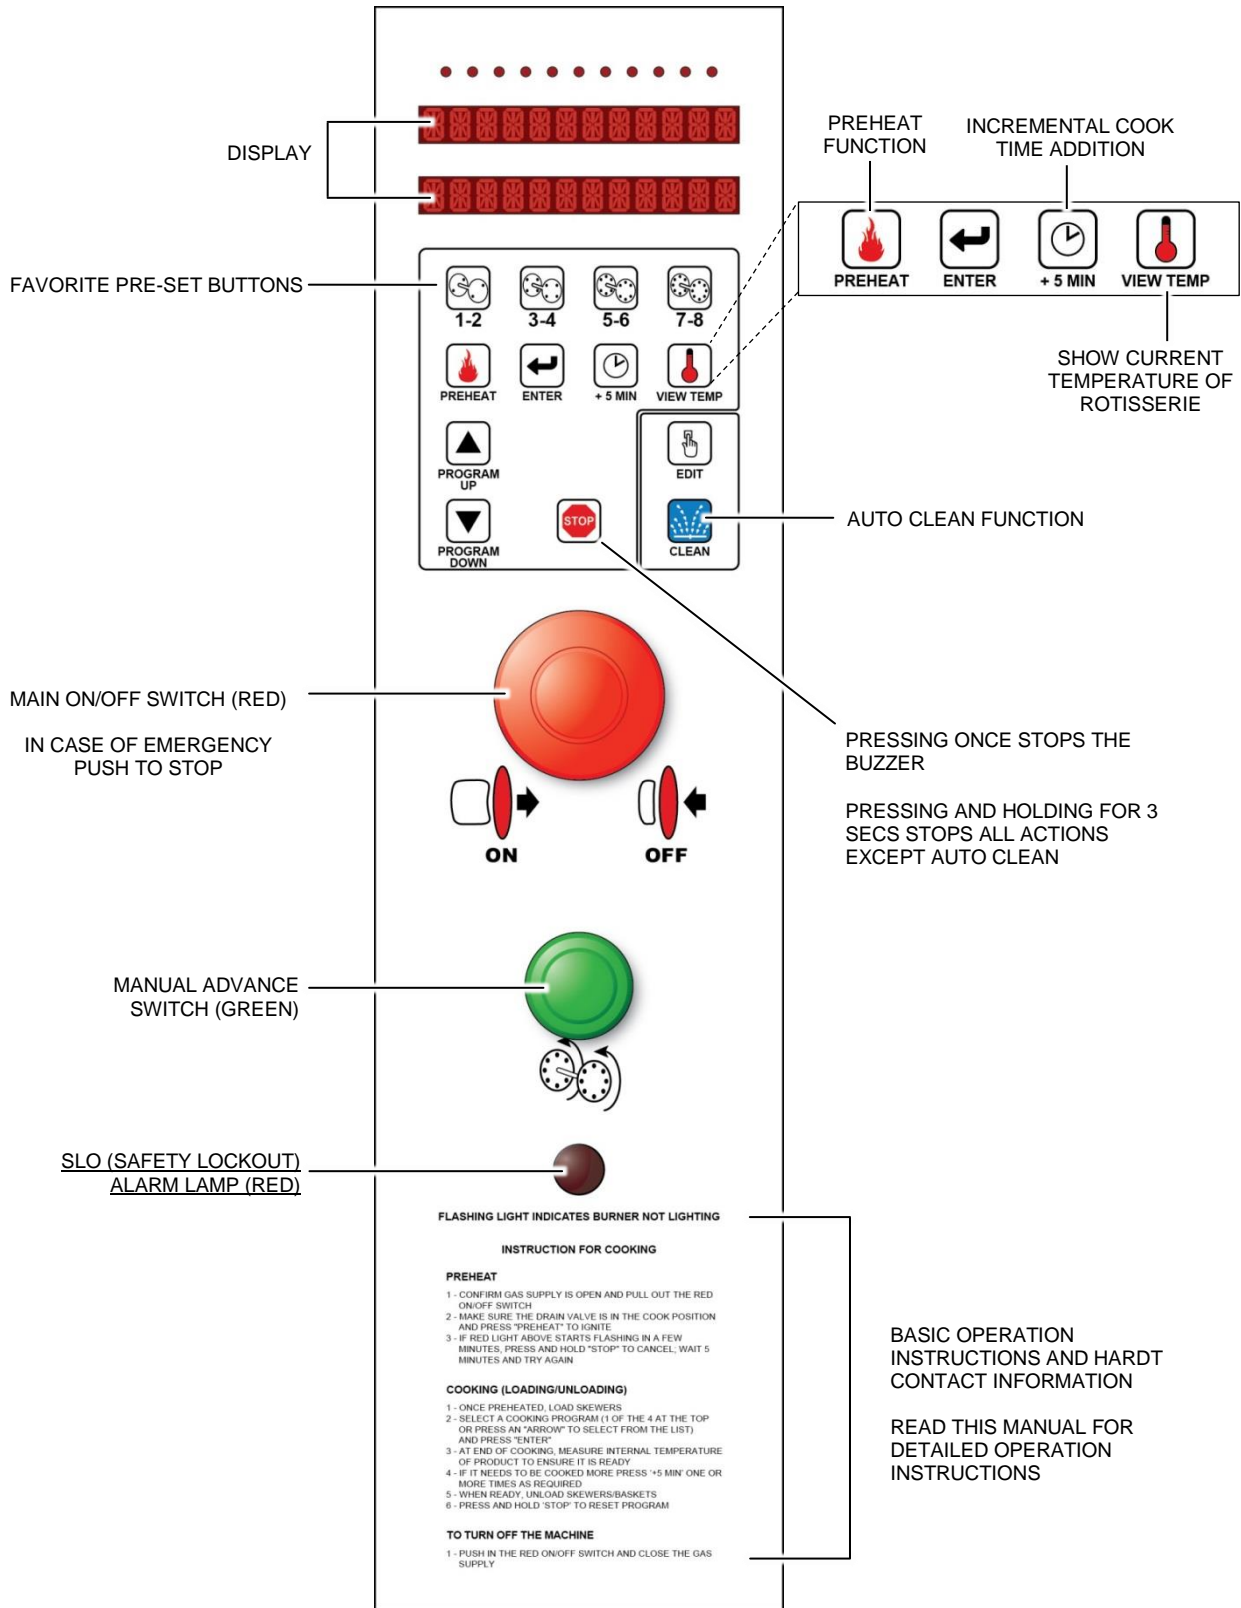

Figure 3-3
7. With power connected to the rotisserie, turn on the Inferno 4500 by pulling out the red main ON/OFF switch shown in Figure 3-3 on page 8.
Open the door to shut off the burner and to stop the drive rotation. Use the green Manual Advance Switch (as indicated in Figure 3-3 on page 8) to position sockets as required.